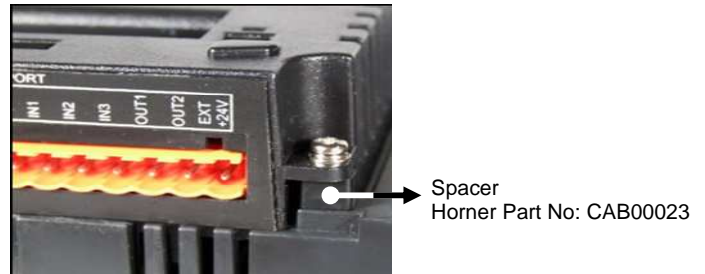

Figure 1 – BP Rev G Spacer Installation
**b. Back Pack (BP) Installation (Backpack sold separately in North America Only)**
4. If installing BP Rev G and beyond use spacer CAB000023 as shown in the Figure 1 for the screw closest to the BP connector